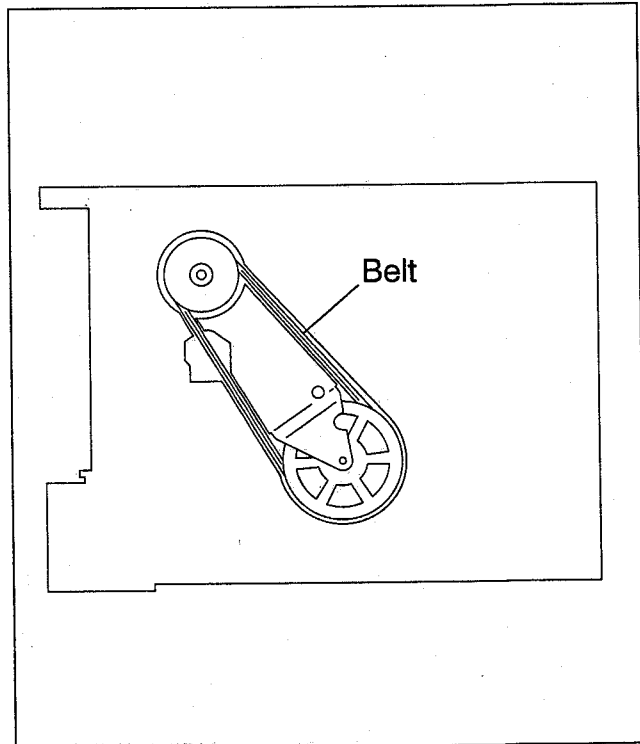

Fig.2-5-10
- (1) Take out 1 slit washer, then remove the lever assy.
- (2) Disengage the belt (capstan motor) from bottom of mechanism assy first as indicated in Fig.2-5-10.